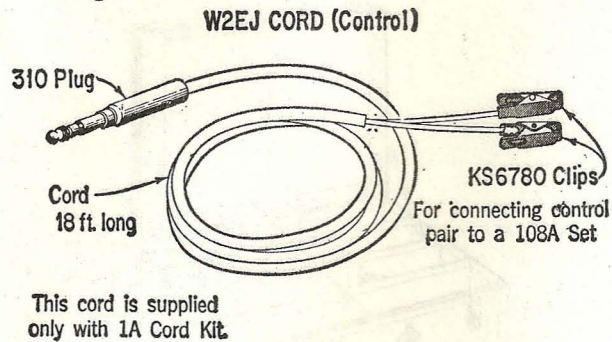

Fig. 5
- 4.03 W2EJ Cord:** This cord is illustrated in Fig. 5.